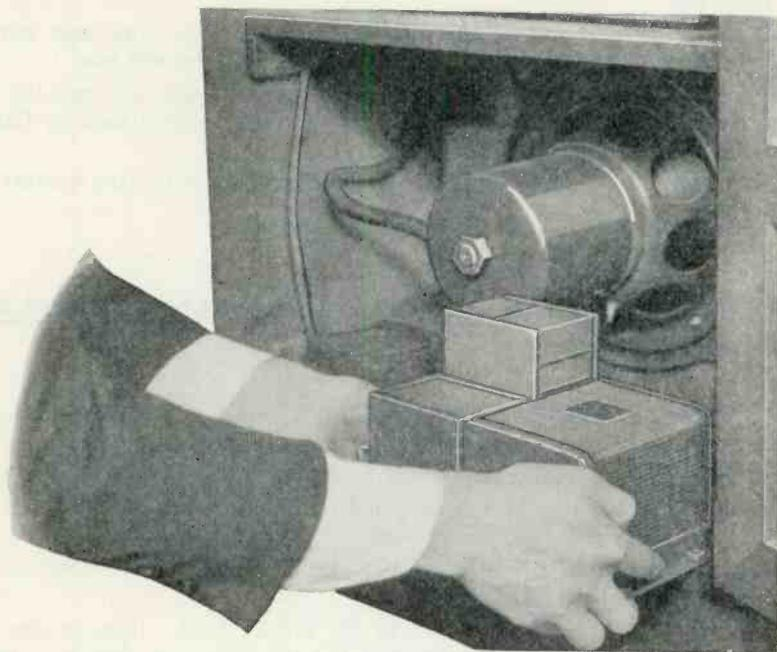

Figure 24—Removing the field supply unit from the cabinet
- (c) Remove the field supply unit to a place convenient for work. (See Figure 24.)